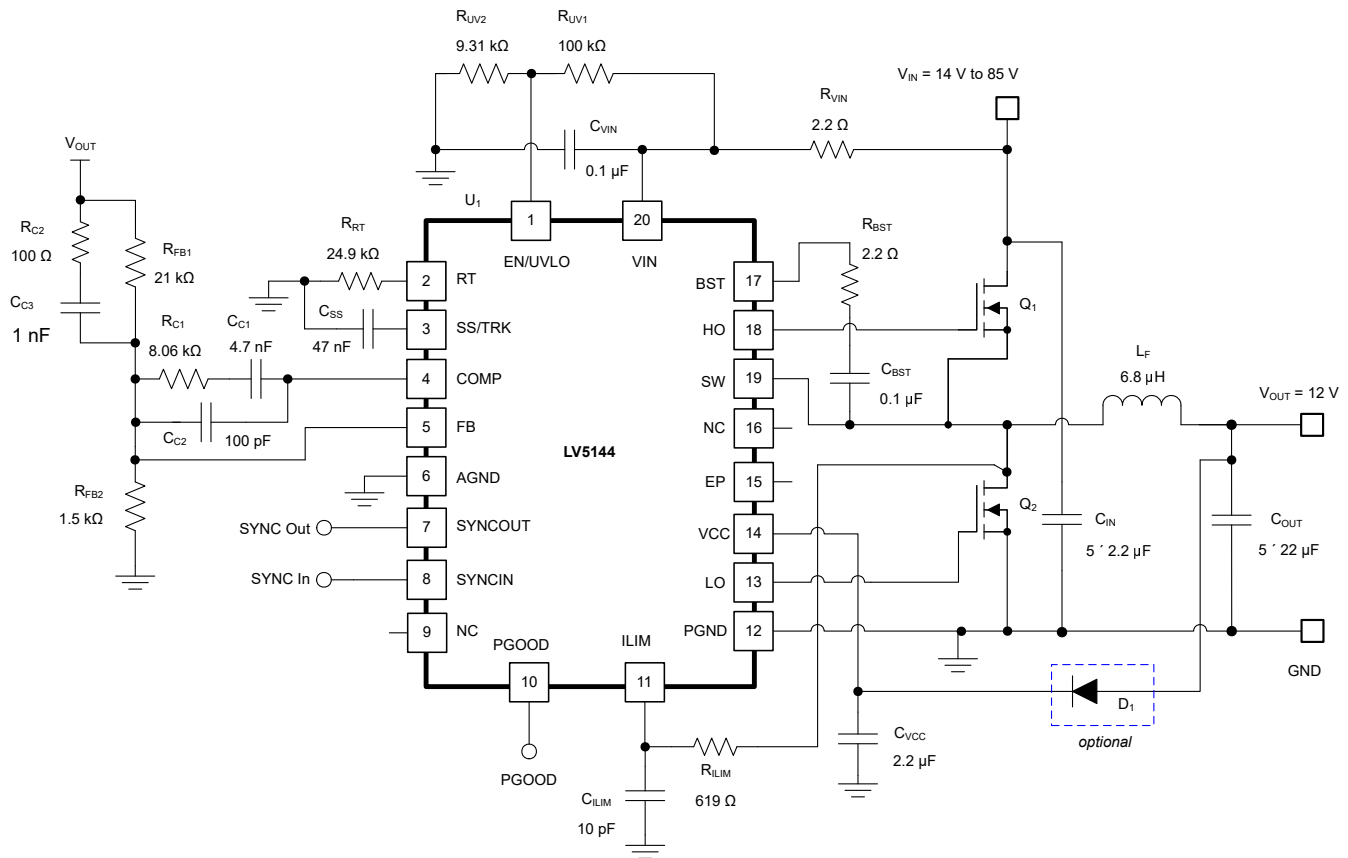

Figure 9-16. Application Circuit 2 With LV5144 48-V to 12-A Synchronous Buck Regulator at 400 kHz
Figure 9-16 shows the schematic diagram of a 400-kHz, 12-V output, 8-A synchronous buck regulator intended for 48-V telecom applications.
As shown in Figure 9-16, a 2.2- $\Omega$  resistor in series with CBST is used to slow the turn-on transition of the high-side MOSFET, reducing the spike amplitude and ringing of the SW node voltage and minimizing the possibility of Cdv/dt-induced shoot-through of the low-side MOSFET. If needed, place an RC snubber (for example, 2.2  $\Omega$  and 100 pF) close to the drain (SW node) and source (PGND) terminals of the low-side MOSFET to further attenuate any SW node voltage overshoot or ringing. Please refer to the application note Reduce Buck Converter EMI and Voltage Stress by Minimizing Inductive Parasitics for more detail.
3. Placing a 2- $\Omega$  to 10- $\Omega$  resistor in series with the boot capacitor, as shown in Figure 9-16, slows down the high-side MOSFET turn-on transition, serving to reduce the voltage ringing and peak amplitude at the SW node at the expense of increased MOSFET turn-on power loss.